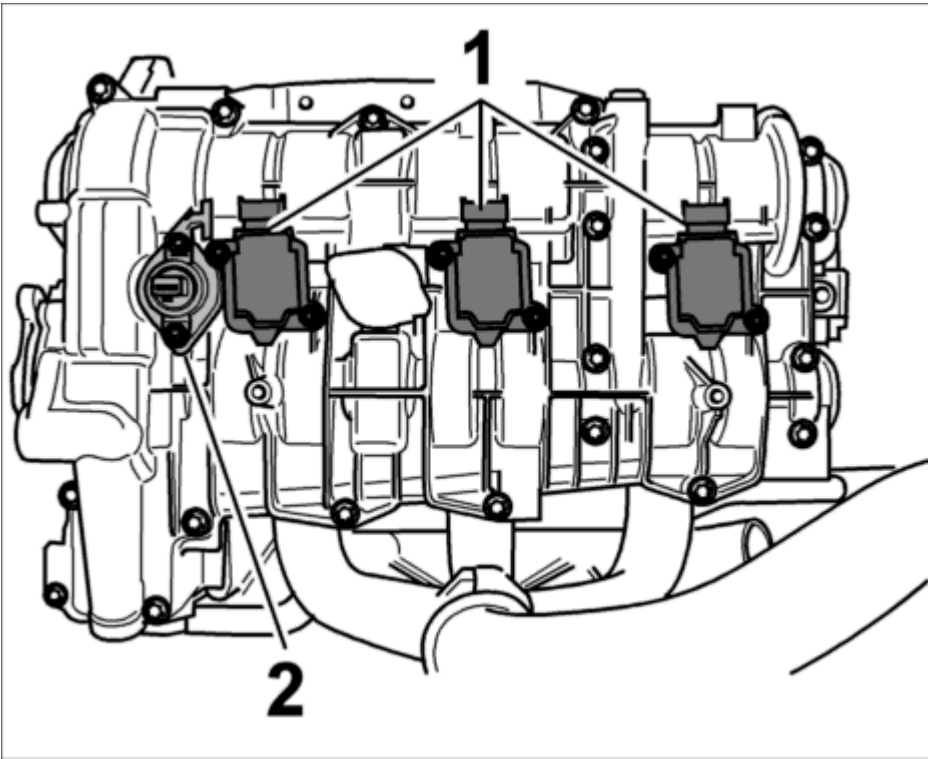

Fig. 48: Hydraulic valves for camshaft adjustment and ignition coils
6. Insert each ignition coil into its spark plug recess -1- , fit two M6 x 25 Torx socket screws and tighten. --> **Tightening torque: 7.5 ftlb. . See Fig. 48.**
7. Fit new retainer plates and holder for the solenoid hydraulic valves -2- --> **153719 Removing and installing solenoid hydraulic valve for camshaft timing - chapter on "Installing". --> Tightening torque: 7.5 ftlb. . See Fig. 48.**